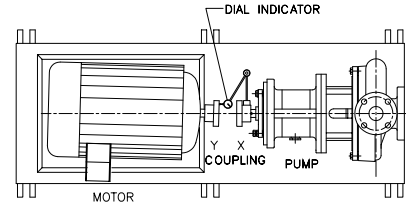

Figure 9
**Horizontal:** Consist of installing a dial indicator (see Figure 9) in the top half of the coupling "X" leaving it fixed, then coupling "Y" is halfway rotated. If the readings exceed 0.002" (0.05 mm), this means that the motor is offset from the top down, install shims at the motor feet to correct the readings.